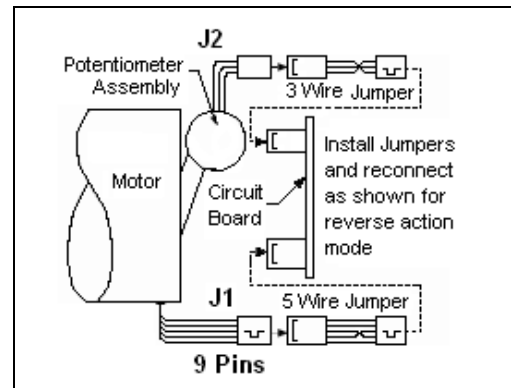

Figure 8. Jumper Plugs/Action Mode Conversion.
3. Install jumper plugs between circuit board and potentiometer and circuit board and motor (Figure 8). Jumper plugs are available from the factory: